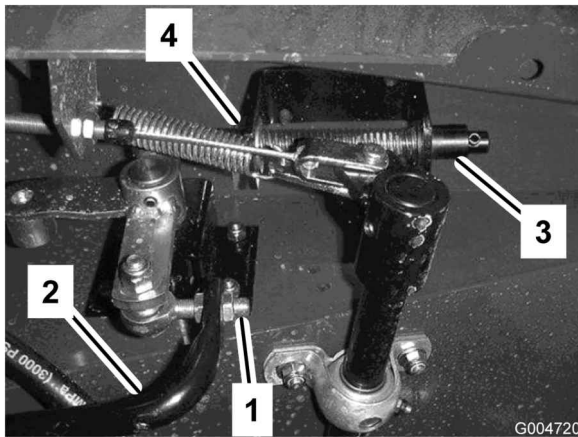

Figure 68
3. Fill the reservoir (Figure 68) with approximately 8 U.S. gallons (30 l) of hydraulic fluid; refer to Checking the Hydraulic Fluid.
3. Loosen the jam nuts on the rod end and adjust the traction rod length (Figure 68) so that the pedal contacts the pedal stop when the pump lever reaches full stroke. Secure the jam nuts.